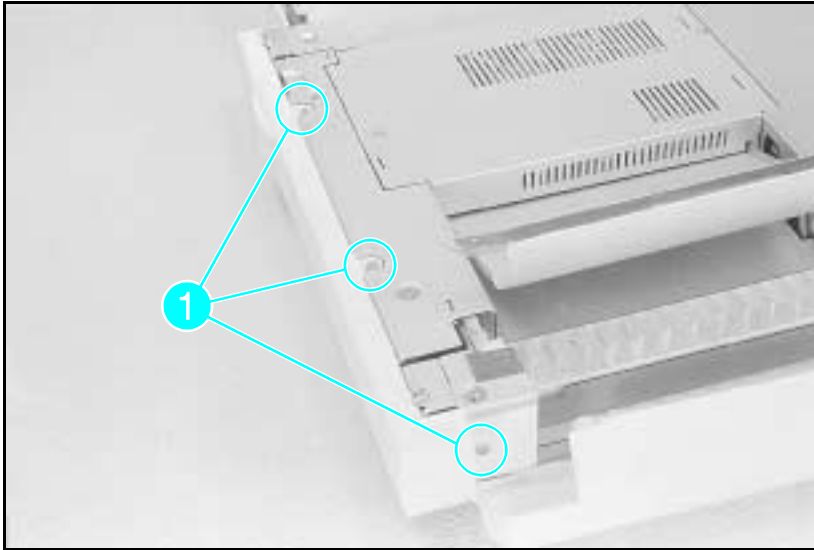

Figure A-7 Side Cover on Gear Side
- 1** Remove the (2) screws on top and the (1) screw on the front (see Figure A-7, callout 1).